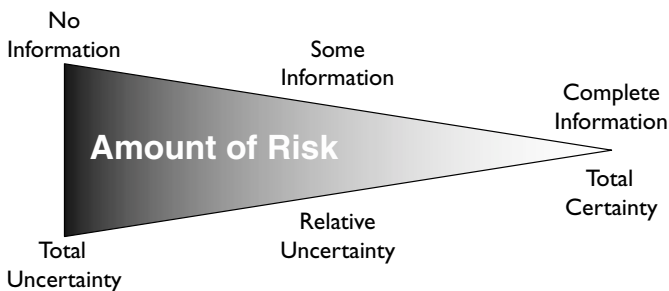

Figure 8-1. Risk relationship between information and uncertainty
**Risk** Risk is actually a measure of the amount of uncertainty that exists. It's directly tied to information, as Figure 8-1 illustrates. This is not exactly the way most of us think about risk in everyday situations. However, in the world of project management, *risk relates primarily to the extent of your ability to predict a particular outcome with certainty*. This interpretation is